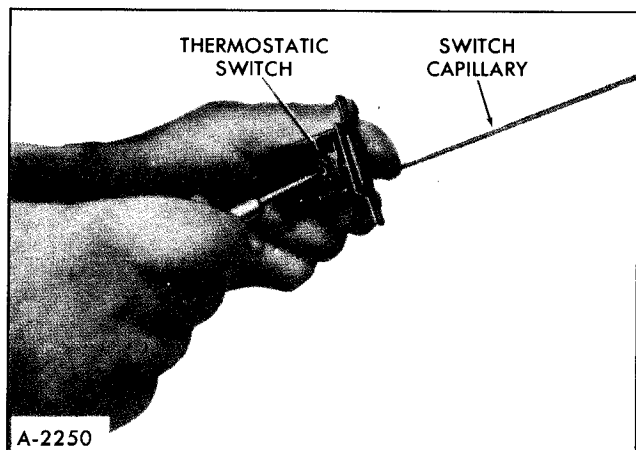

Figure 26—Adjusting Thermostatic Switch
5. If the outlet temperature was less than the prescribed temperature at the end of each cooling cycle, turn the adjusting screw a partial turn counter-clockwise (figure 26). If the outlet temperature was more than prescribed temperature, turn the adjusting screw clockwise.